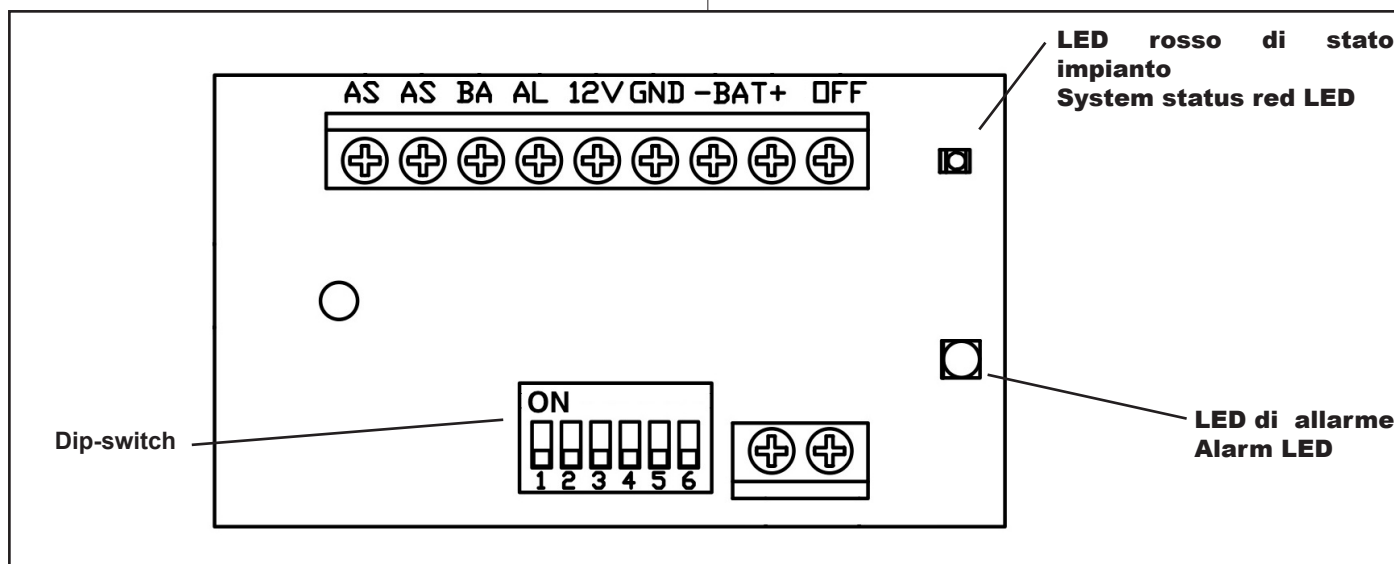

Fig. 3
2. Scollegare la scheda: sulla morsettiera scollegare tutti i morsetti (v. Fig. 3).
2. Disconnect the board: disconnect all the terminals on the terminal block (see Fig. 3).